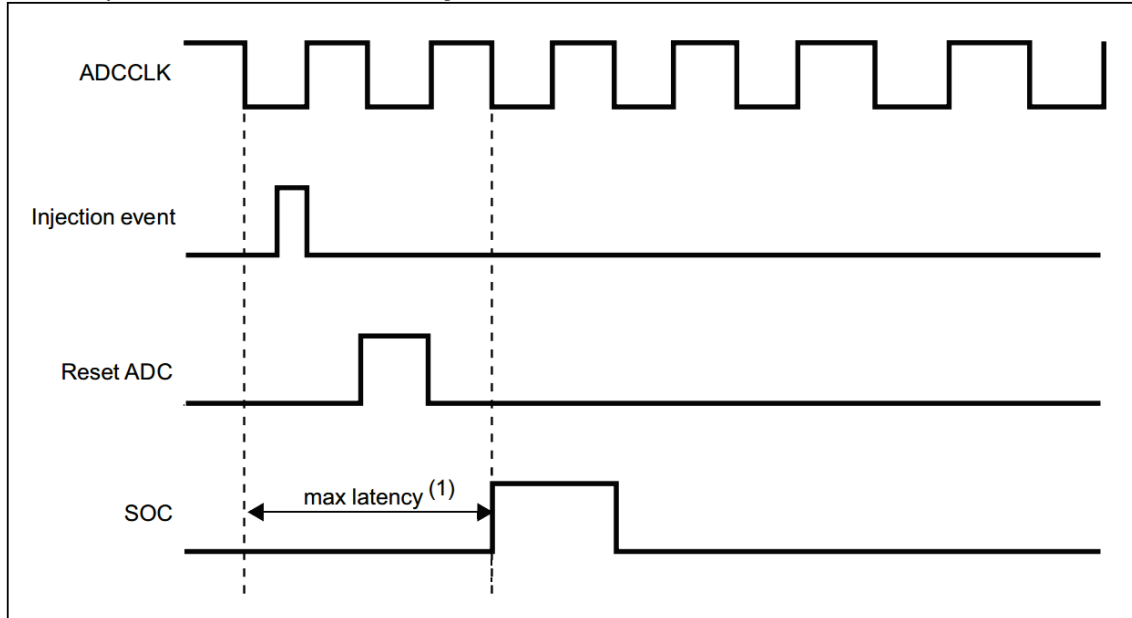

Figure25 Injection Conversion Delay
3. Then, the last interrupted rule group channel transition is resumed. If a rule event is generated during an injection transition, the injection transition will not be interrupted, but the rule sequence will be executed at the end of the injection sequence. Figure25 shows its timing diagram.